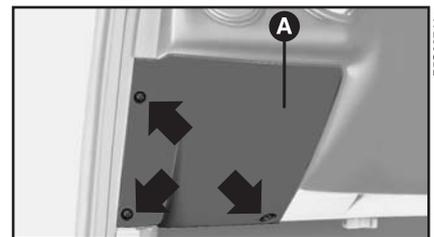

fig. 29
- 2) remove guard **A**-fig. 29. When you replace the guard, make sure it fits properly under the door weather-stripping.